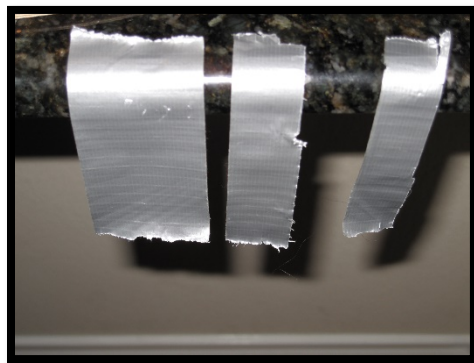

Figure 2.1
- One 4" long piece needs to be ripped long ways to make two ½ width strips. (Figure 2.1)